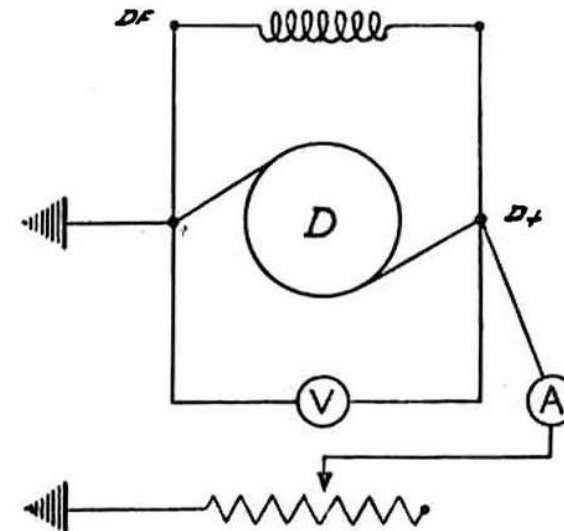

Fig. 121 - Diagram of the dynamo charging test. at a constant voltage of 6 V.
b) Charging test at a constant voltage of 6 V. Without changing the connections of the preceding test, connect a rheostat between the D + and the mass, with an ammeter in series (Fig. 121). Gradually increase the revs and regulate the rheostat until, with the tension of 6 V., a 7.5 A. current is obtained. Thus, the output will be of $6 \text{ V} \times 7.5 \text{ A} = 45 \text{ W}$ (nominal power). The corresponding number of revolutions should be less or equal to 2100 revs per minute. If the dynamo meets the above requirements, it is efficient and, therefore, it is necessary to find the cause in the regulator. Consequently, it is necessary to make the following tests: